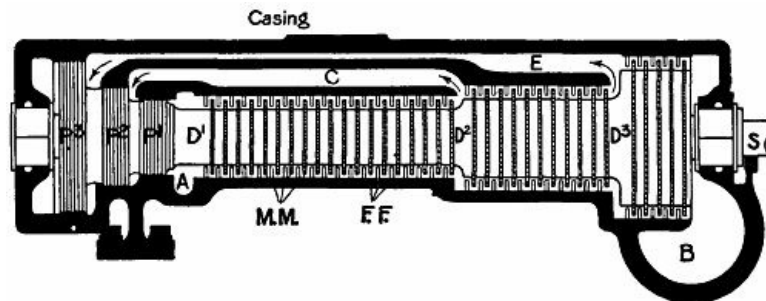

FIG. 37.—Section of a Parsons turbine.
The essential parts of a Parsons turbine are:—(1) The shaft, on which is mounted (2) the drum; (3) the cylindrical casing inside which the drum revolves; (4) the vanes on the drum and casing; (5) the balance pistons. Fig. 37 shows a diagrammatic turbine in section. The drum, it will be noticed, increases its diameter in three stages,  $D^1$ ,  $D^2$ ,  $D^3$ , towards the right. From end to end it is studded with little vanes,  $M M$ , set in parallel rings small distances apart. Each vane has a curved section (see Fig. 38), the hollow side facing towards the left. The vanes stick out from the drum like short spokes, and their outer ends almost touch the casing. To the latter are attached equally-spaced rings of fixed vanes,  $F F$ , pointing inwards towards the drum, and occupying the intervals between the rings of moving vanes. Their concave sides also face towards the left, but, as seen in Fig. 38, their line of curve lies the reverse way to that of  $M M$ . Steam enters the casing at  $A$ , and at once rushes through the vanes towards the outlet at  $B$ . It meets the first row of fixed vanes, and has its path so deflected that it strikes the ring of moving (or drum) vanes at the most effective angle, and pushes them round. It then has its direction changed by the ring of  $F F$ , so that it may treat the next row of  $M M$  in a similar fashion.